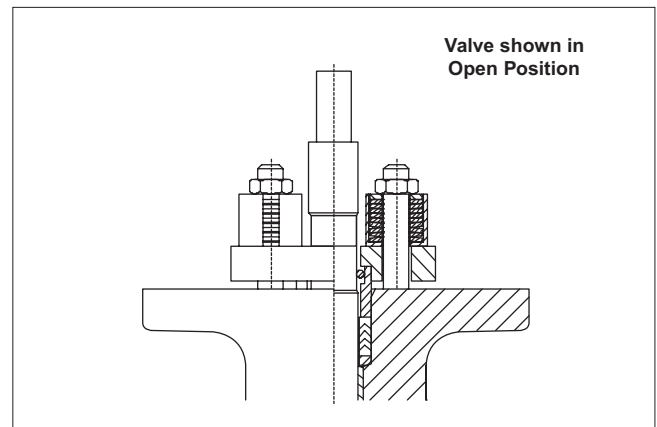

Figure 3. Valve with conversion kit
4. **IS THE VALVE CLOSED?** BEFORE YOU INSTALL A WAFER-SPHERE™ BUTTERFLY VALVE IN, OR REMOVE IT FROM THE LINE, FULLY CLOSE THE VALVE. THE WAFER-SPHERE™ BUTTERFLY VALVE MUST BE REMOVED FROM THE LINE IN THE CLOSED POSITION TO PREVENT MECHANICAL DAMAGE TO THE DISC SEALING EDGE. THE BLADE DRIVE FLATS ON TOP OF THE SHAFT WILL INDICATE THE POSITION OF THE DISC (SEE FIGURES 3 AND 4).